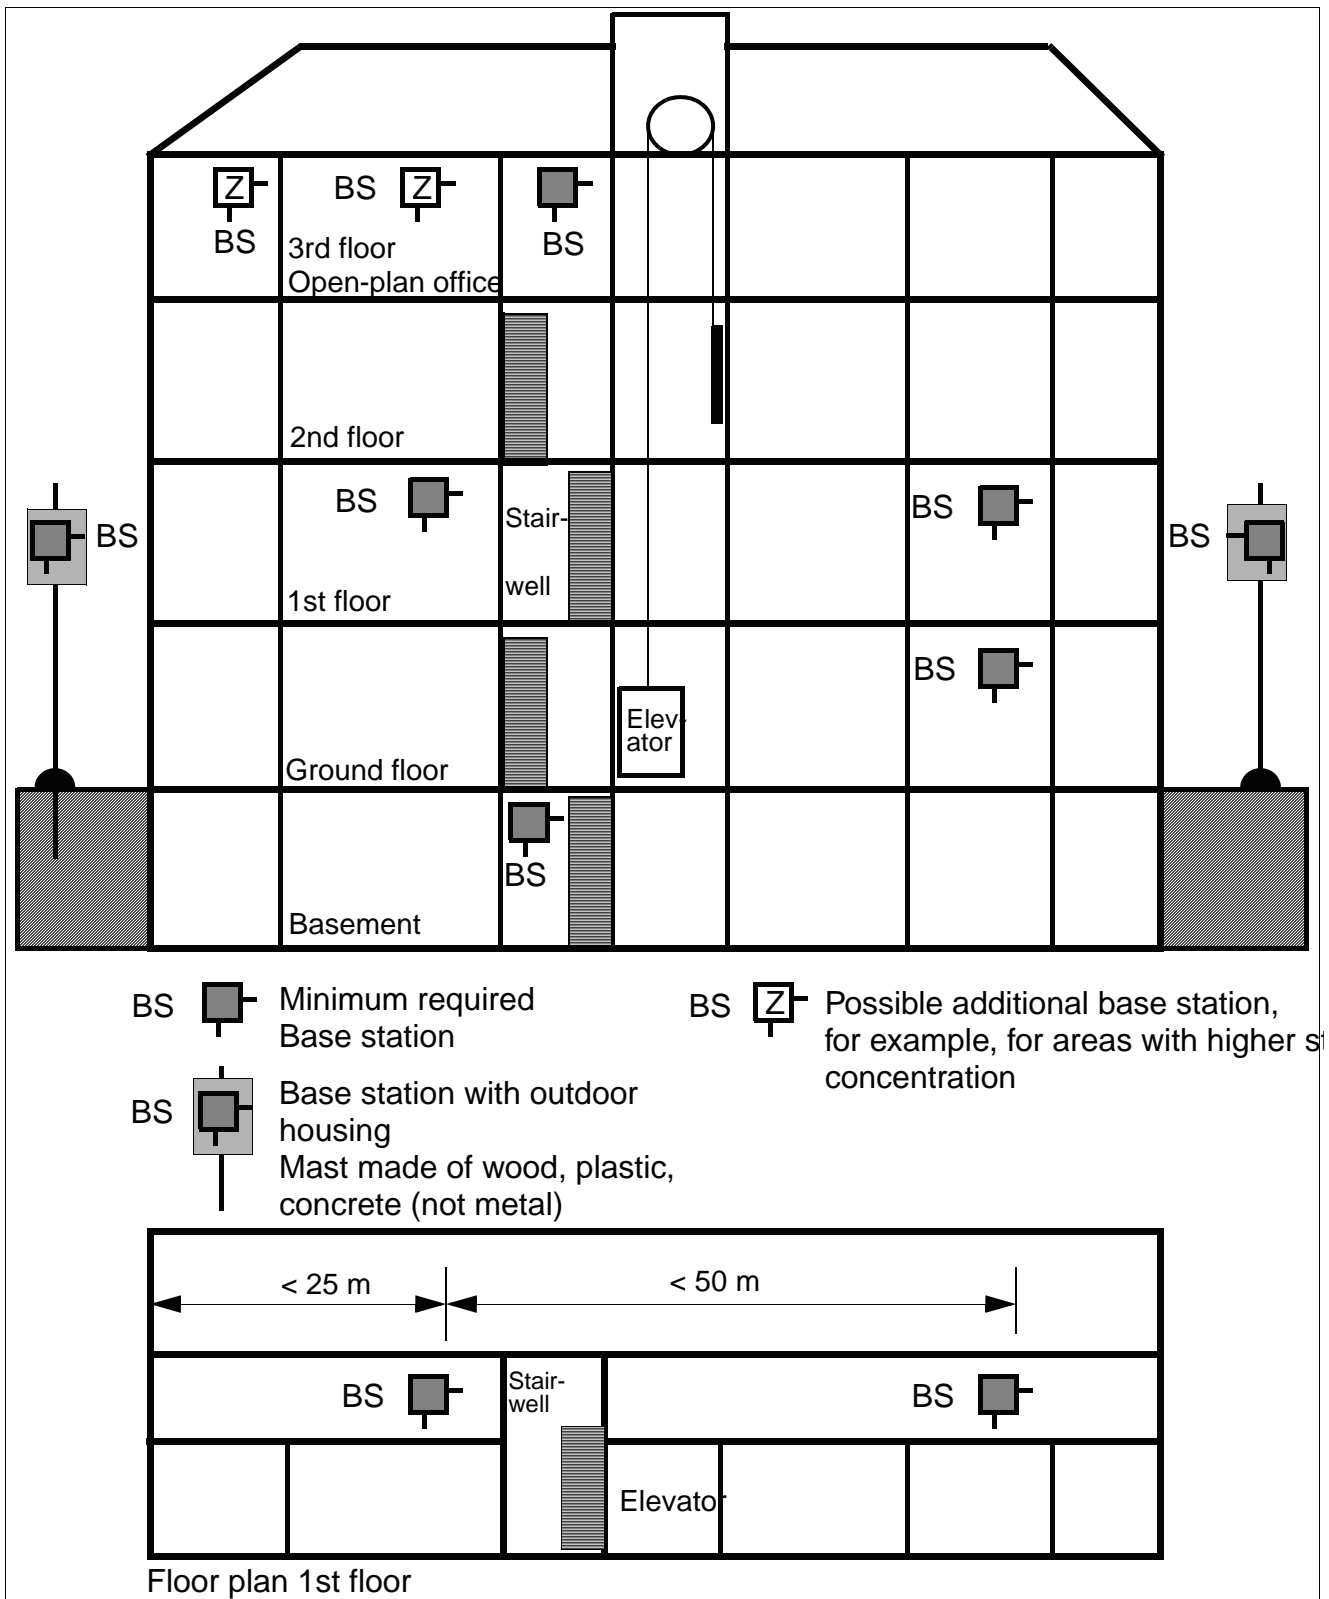

Figure 12 Base station distribution for base stations with housing for outdoor use
- Base station with outdoor housing (Figure 12)